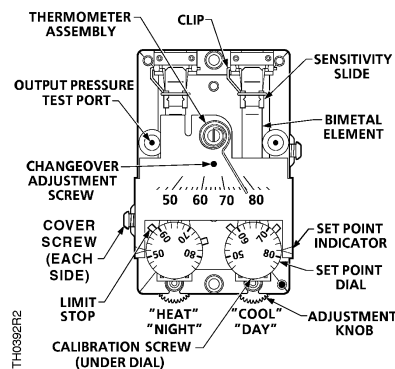

Figure 16. TH192 HC Thermostat Details.
3. Place a screwdriver in the center of the thermometer assembly (See Figure 16).
3. Place the Cover screw and calibration wrench in the opening of the thermometer assembly (see Figure 16) to adjust the changeover adjustment screw as follows:
The factory thermostat sensitivity setting is approximately 2.5 psi/°F (31 kPa/°C). To change the sensitivity, use a flat-blade screwdriver to carefully move the sensitivity slide (see Figure 16) to the desired position as follows:
2. Use a needle nose pliers to pull the limit stop tab (see Figure 16).
The output pressure test port (see Figure 16) is accessible without removing the thermostat cover through the eighth opening:
4. Moisten the needle and insert the test gauge and needle adapter in the output pressure test port (see Figure 16). Read the control pressure.
3. Moisten the needle and insert the test gauge and needle adapter in the output pressure test port (see Figure 16). Read the control pressure.
Use the Dual Scale Pressure Gauge and Pressure Tap Needle to measure the control pressure at the output test port (see Figure 16). The output pressure test port is accessible without removing the thermostat cover through the eighth opening from the top as follows: